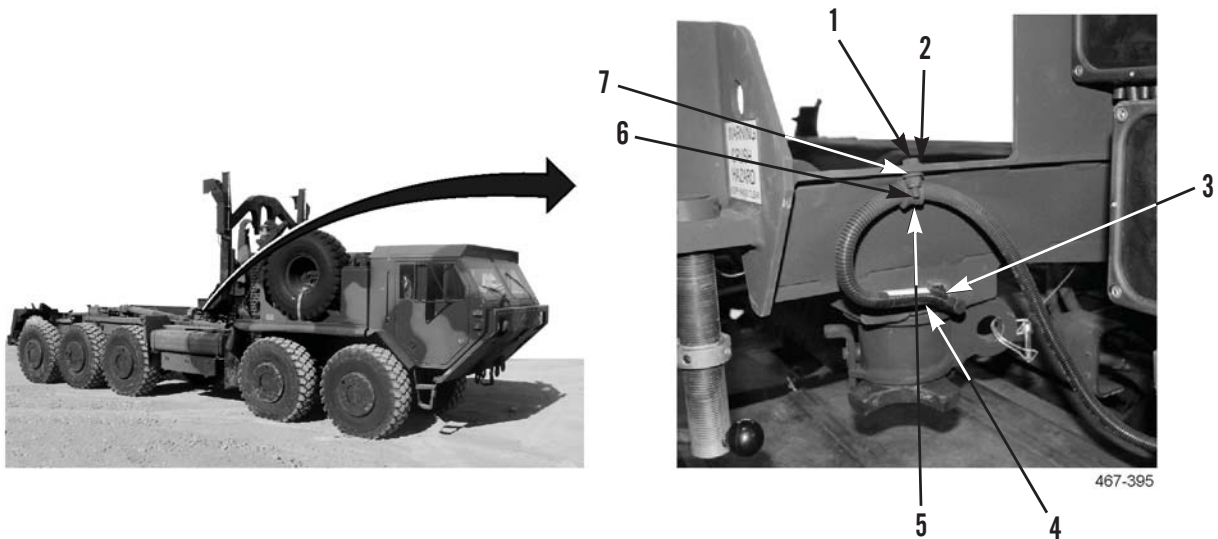

Figure 23. Transport Lock Sensor Installation.
1. Install washer (Figure 23, Item 2), bolt (Figure 23, Item 1), clamp (Figure 23, Item 5), washer (Figure 23, Item 7) and new locknut (Figure 23, Item 6) on transport lock sensor harness (Figure 23, Item 4).
2. Connect transport lock sensor harness (Figure 23, Item 4) to transport lock sensor (Figure 23 Item 3). Install tiedown straps as required.